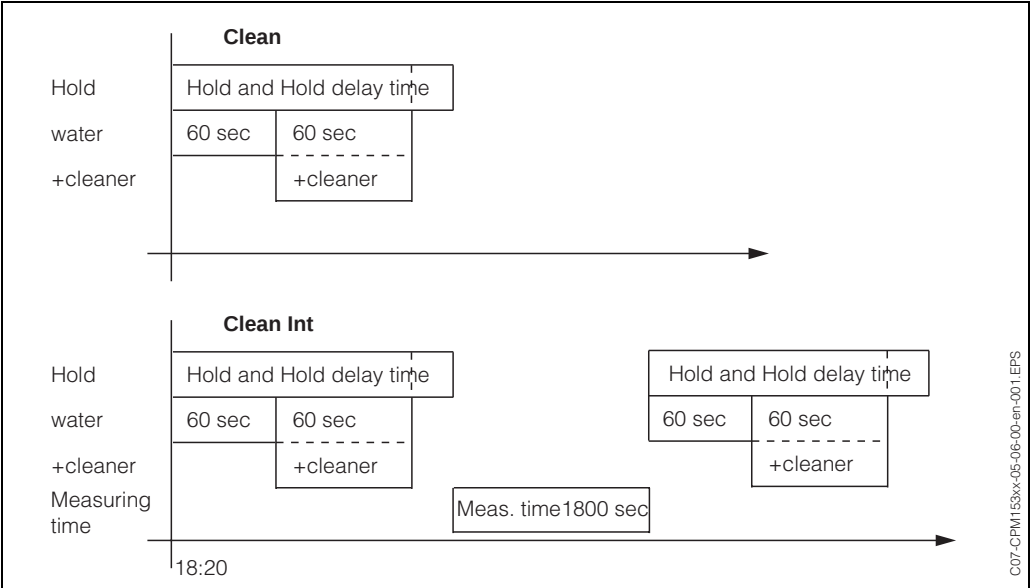

Fig. 27: Graphic representation of the above example
- "Clean": Cleaning started by entering the start time (s. fig. 27).
- "Clean Int": Cleaning is carried out at intervals with a defined spacing (s. fig. 27). This programme cannot be started via the binary inputs directly.